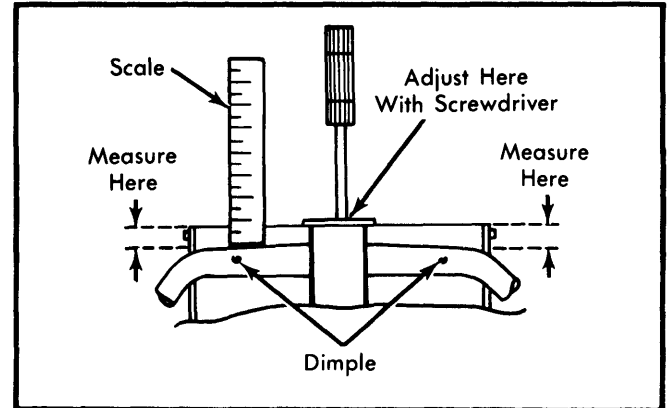

Fig. 16 Adjusting Metering Rods (International Harvester Only)
1) Back throttle stop screw out completely to make sure throttle valves are fully closed. Open choke valve wide open. Insert a small screwdriver in slot of step-up piston and press piston down to stop. See Fig. 16.